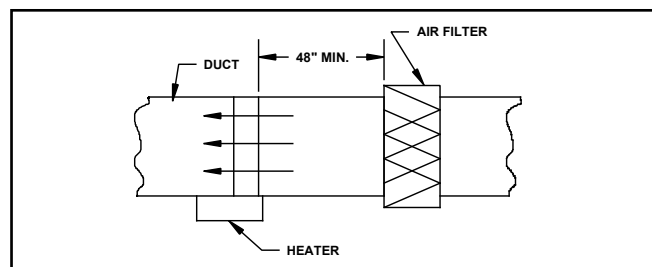

FIGURE 3.1.6 PLACEMENT: AIR FILTER REQUIREMENTS
10. Always locate the heater at least 48" downstream from an air filter. (See Figure 3.1.6)